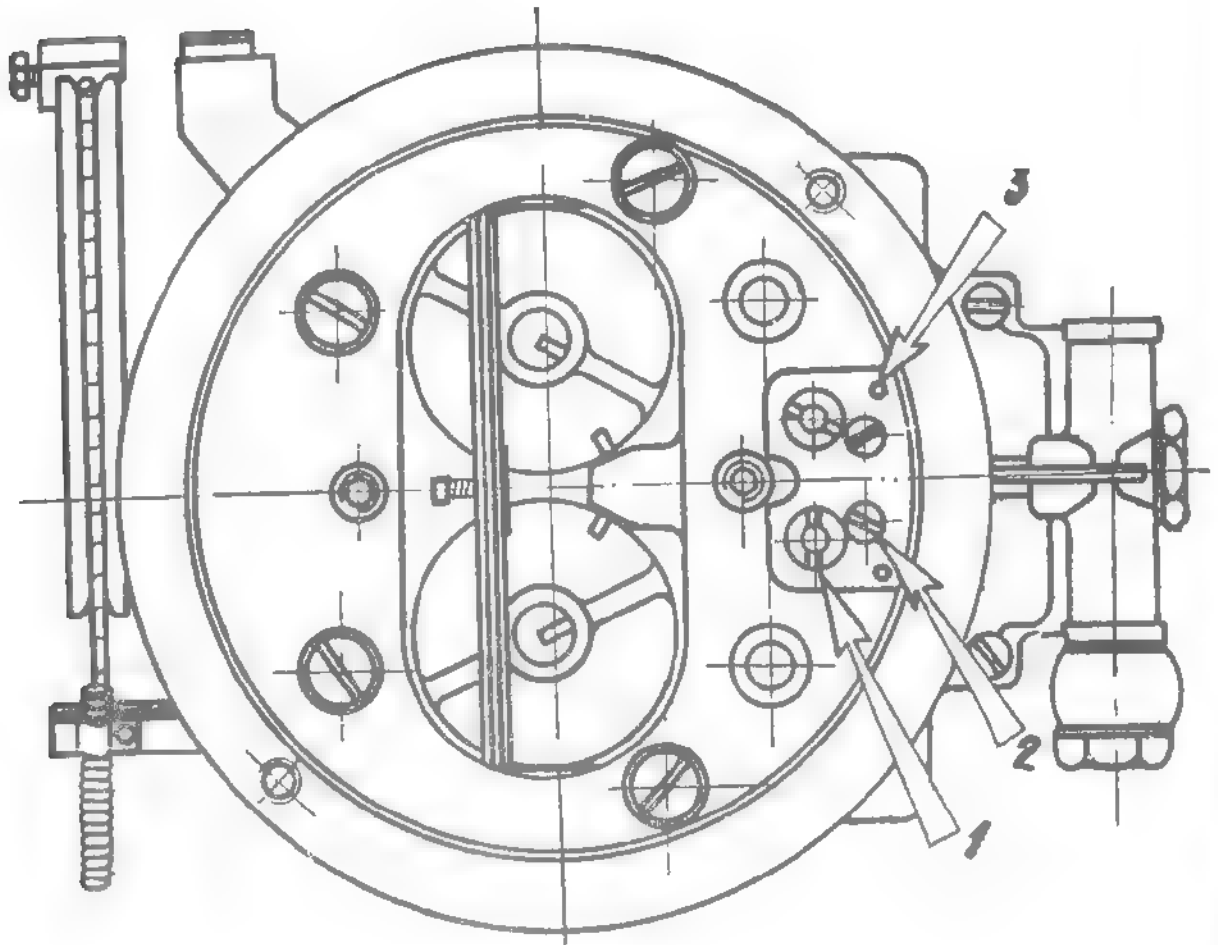

Fig. 2.23. ACCESS TO CARBURETTOR JETS
For cleaning carburettor main and idle jets it should be removed air connection elbow (adapter), which is connected with air cleaner. So you will get access to the main and idle jets, (1) and (2) - fig.2.23.
Under the air connection elbow, in the feeding socket area, there are the two main and the two idle jets. (see fig. 2.23).